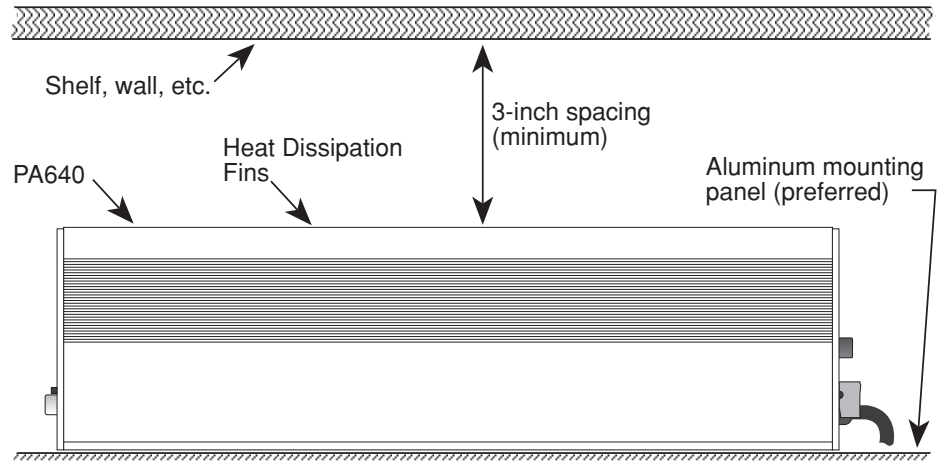

Fig. 4 Horizontal Mounting
2. If mounted in an equipment cabinet or other confining location, allow at least 3 inches of space above the heat sink fins (see Fig. 4). Be sure there are large openings to allow the entry of cool air and the escape of warm air.
7. Mounting the PA640 onto an aluminium panel (rather than on wood or other non-heat conducting material) will add additional heat dissipation capability. See Fig. 4 & 5.